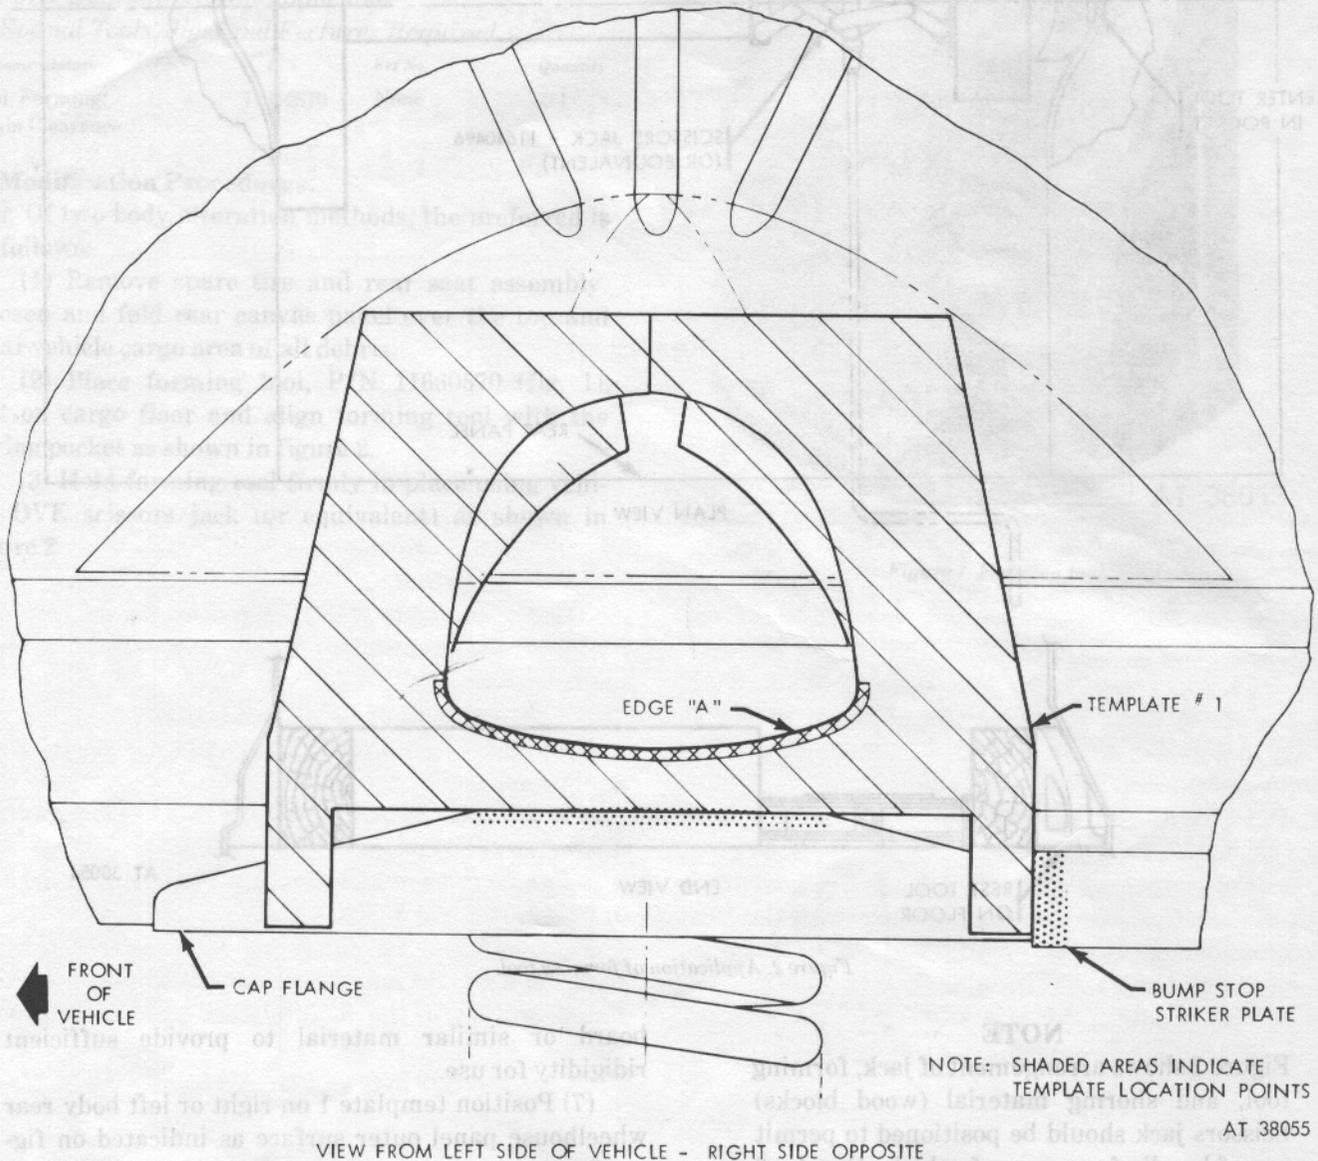

Figure 3. Application of template No. 1
(7) Position template 1 on right or left body rear wheelhouse panel outer surface as indicated on figure 3.
(8) Using a grease pencil, chalk or other suitable marker, trace the cutout opening profile on panel.
(9) Using a 2-pound hammer, form side of wheelhouse panel into forming tool by striking within marked area. Refer to figure 3 for template use and figure 6 for hammering procedure.
ing only small incremental movements of sheet metal panel. Special care must be taken to insure that forward and lower edge of depression, identified as edge "A" on template 1 and figures 3 and 5, are against forming tool before completion of alteration. Greater force may be required along edge "A".